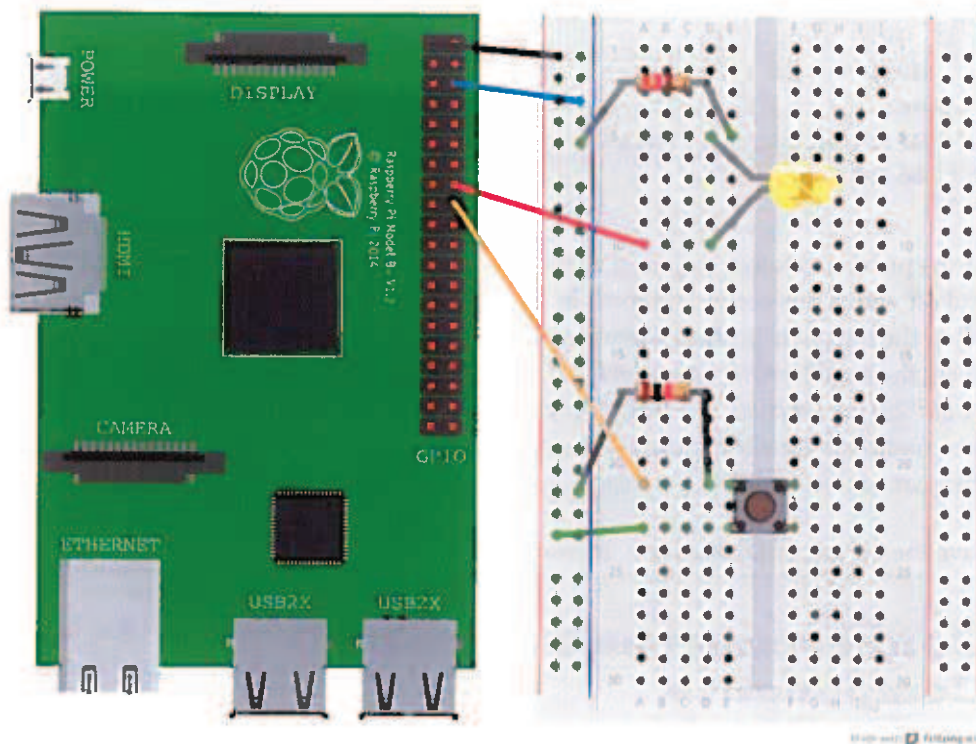

FIGURE 8-10 Circuit diagram to connect components to Raspberry Pi for button LED
As with the program for making an LED blink, before you run your button LED program you need to assemble the electronic components and connect them to the Raspberry Pi GPIO pins. If you use the component configuration from the previous exercise, you will only need to add a few extra parts. Figure 8-10 shows the Raspberry Pi on the left and a breadboard on the right. Follow this diagram to help you connect the right cables and components in the circuit.
1. Leaving the original circuit complete, take a small button switch and place it across the ride in the centre of the breadboard, with two legs in holes on column E and two legs in holes in column F on rows 21 and 23, as shown in Figure 8-10.
If you have a Rev 2 Raspberry Pi, you can compare your configuration to the one shown in Figure 8-10.